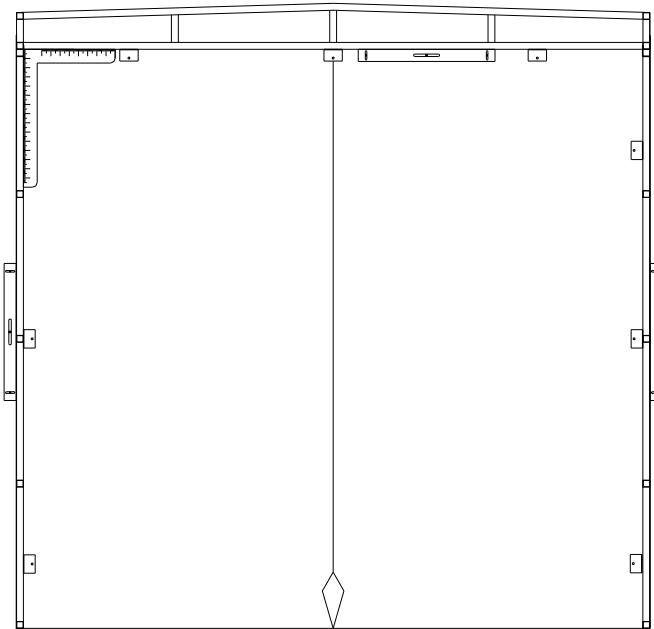

FIG. 10A
- a. **Check entire shelter for plumb, level, and square** (Figure 10a).